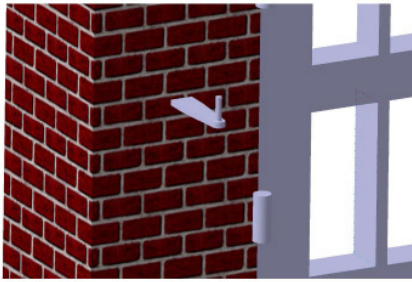
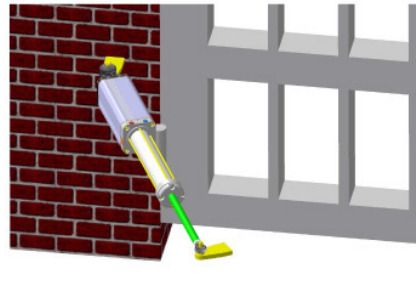
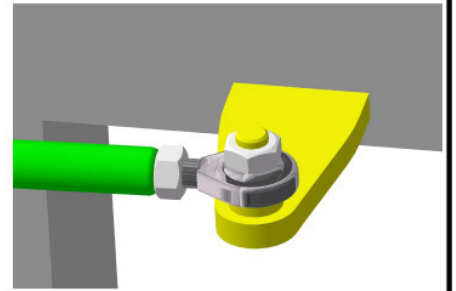

Fig.2
Fig.3
Fig.4
- 3) Shorten or lengthen the gate support according to the dimensions for C shown in the table on page 3. Connect the iS320 opener to the gate support, with the rod completely extended **(Fig.2 Page 5)** and with the swivel joint nut fully tightened **(Fig.3 Page 5)**. Once this has been done use a spirit level **(Fig.4 Page 5)** to mark the position of the gate support on the gate. Dismantle the gate support and fix it to the gate using the markings previously made.
- 4) Mount the motor and unscrew the swivel joint nut three turns to ensure closure. Attach the security ring and the safety bolt supplied. **(Fig.3 Page 5)**.